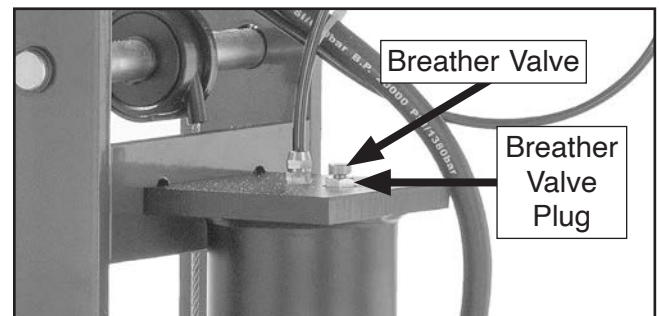

Figure 39. Location of breather valve plug.
5. Remove breather valve plug on hydraulic pump (see **Figure 39**), and drain all hydraulic oil into drain pan.